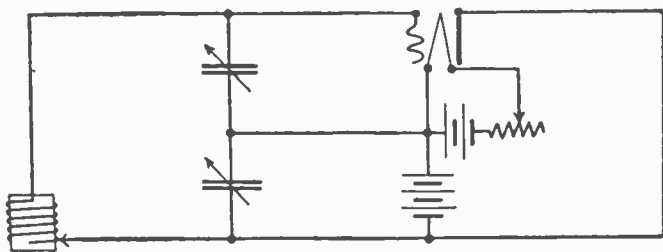

Fig. 20.—Capacity Coupling is Used in this Oscillating Circuit.
**A. Separated tuning condenser method.** In this circuit Fig. 20, two separate tuning condensers are used, in